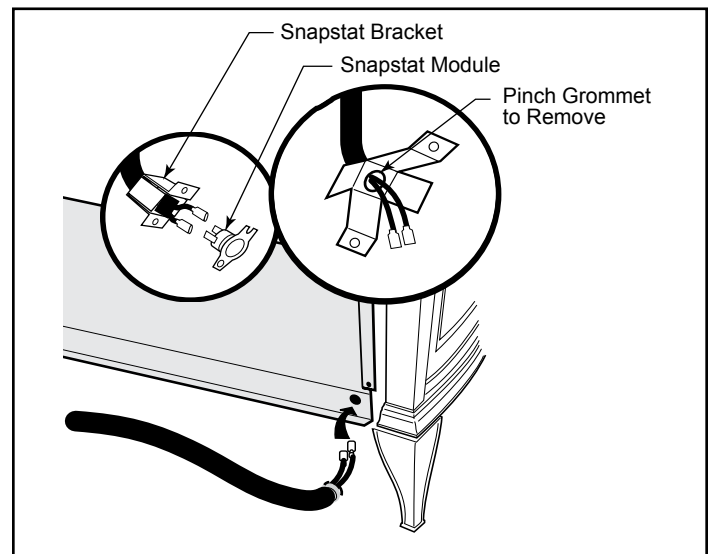

Figure 24 - Remove the snapstat and grommet from the bracket and insert the grommet into the inner shroud.
- Connect snapstat leads. Disconnect the snapstat module from the leads inside the snapstat bracket. (Figure 24) Bend open the snapstat bracket. Use needle nose pliers to remove the black plastic grommet from the bracket. Discard the bracket. Insert the grommet and wires into the large hole at the bottom right corner of the inner shroud. Feed the snapstat wire leads through the grommet into the stove interior. Connect the two (2) wires to the two (2) snapstat extension leads attached to the inner shroud or, on some models, between the inner and outer shroud.